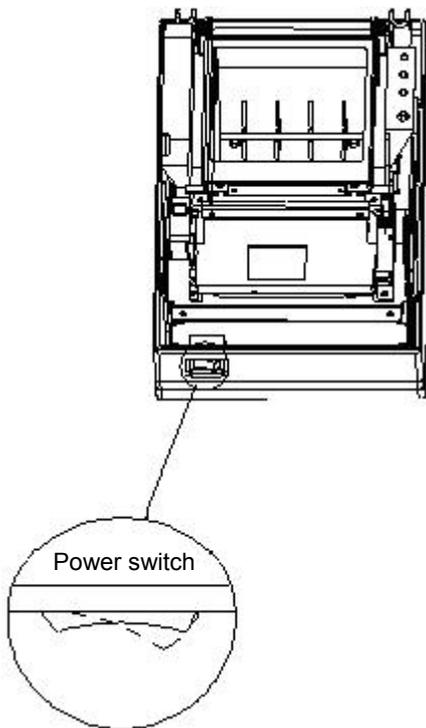

Figure 5-5
Step5. As Figure 5-5 shown, press the power switch to be symmetric, pull out the bottom housing, while which still blocks the switch, you can gently turn over the border of bottom housing outward.